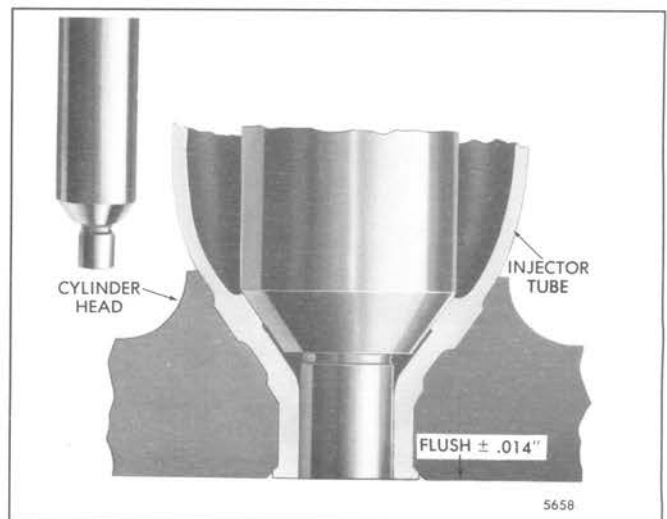

Fig. 7 – Measuring Relationship of Gage to Fire Deck of Cylinder Head with Tool J 25521
Install gage J 25521 in the injector tube. Zero the sled gage dial indicator J 22273 to the fire deck. Gage J 25521 should be flush to $\pm .014$ " with the fire deck of the cylinder head (Fig. 7).
- d. Remove the chips from the injector tube and, using gage J 25521, continue the reaming operation until the shoulder of the spray tip is flush to $\pm .014$ " with the fire deck of the cylinder head (Fig. 7). Then, wash the interior of the injector tube with clean solvent and dry it with compressed air.